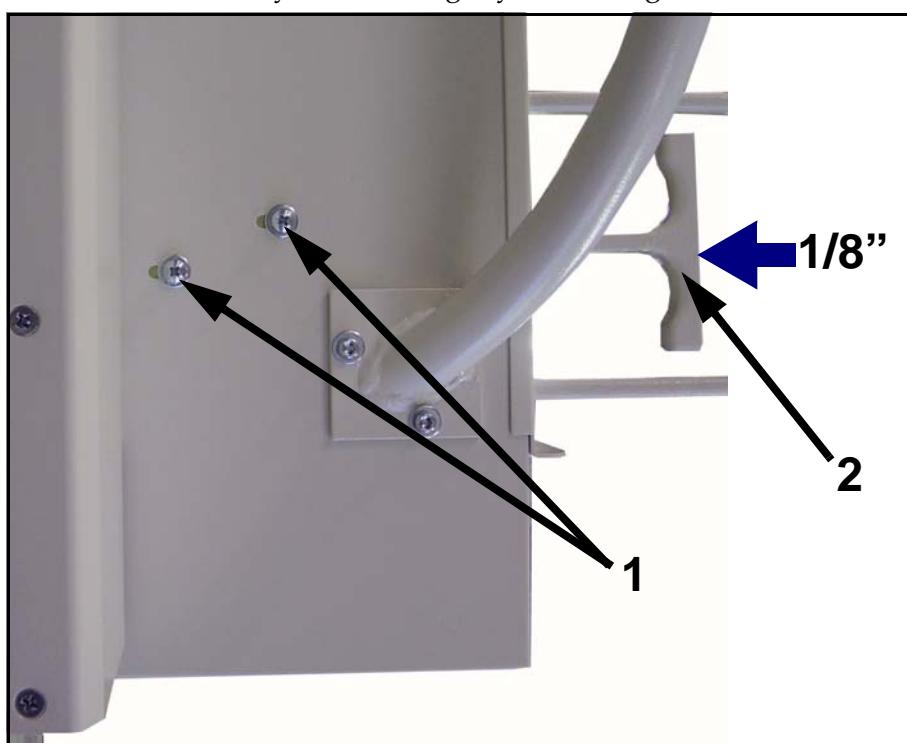

Figure 5-1. Brake Assembly Adjustment Screws
- 1 Loosen the two brake assembly screws (1 in Figure 5-1) one full turn.
- 2 Push release brake handle (2) no more than $1/8''$. This will tighten the brake cams.
- 3 Retighten screws (1).